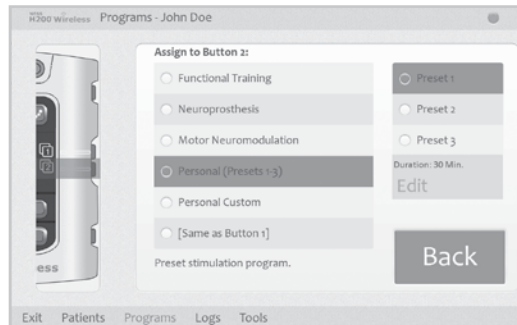

Figure 8-33: Assign to Button 2 Window
2. The Assign to Button 2 window will open. See Figure 8-33.